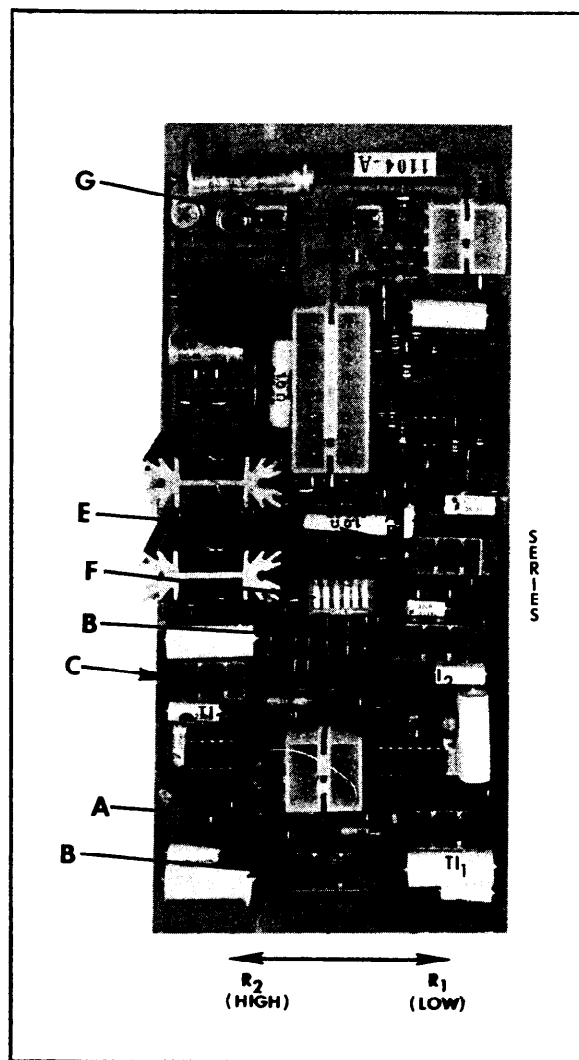

Figure 10 - FET-2 Circuit Board
3. Set the series-parallel switch in parallel mode (Figure 10, Key E).
4. Set the output switch (Figure 10, Key F) as follows: